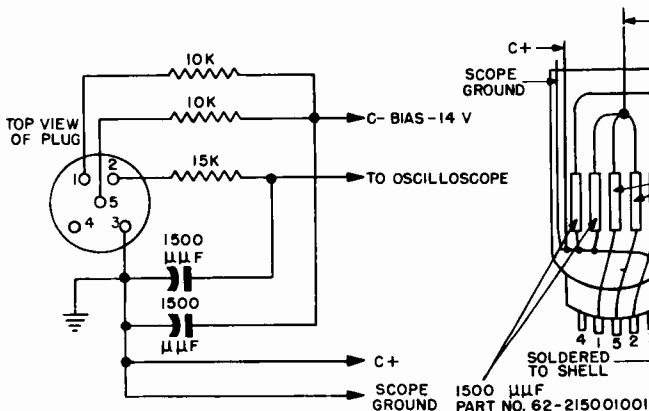

Figure 2. Video I-F Alignment Jig
5. With a voltmeter connected across the points shown in figure 2, set the potentiometer to furnish -14 volts of bias.